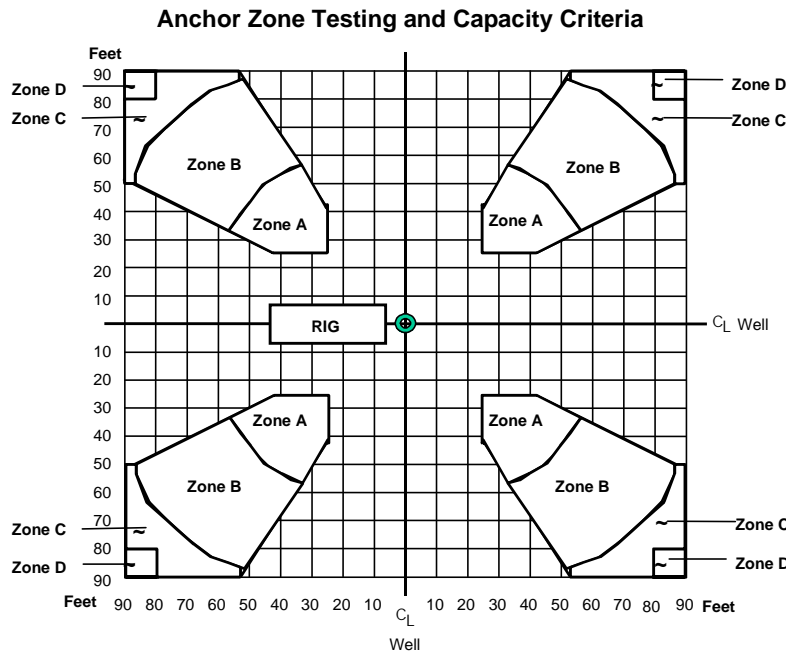

Figure 4
3. See *Figure 4* for Anchor Spacing and Capacity.
Anchor Capacities Shown on **Figure 4** and **Table 4** assumes the following: